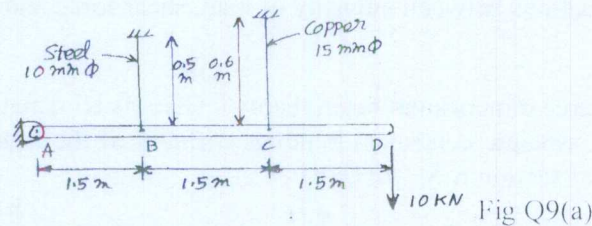

Fig Q9(a)
- 9 a. A rigid rod ABCD is supported by a hinge at A and two wires at B and C as shown in Fig Q9(a). Determine the stresses and elongations of the two wires. Take  $E_s = 200 \text{ GPa}$  and  $E_c = 100 \text{ GPa}$ . (10 Marks)